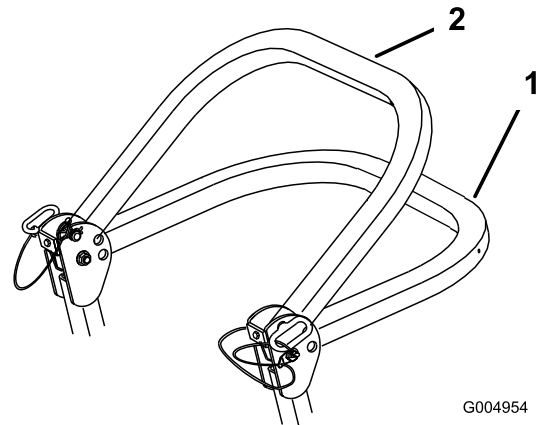

Figure 4
2. Lower the roll bar to the down position (Figure 4).
Note: There are 2 down positions; refer to Figure 4.